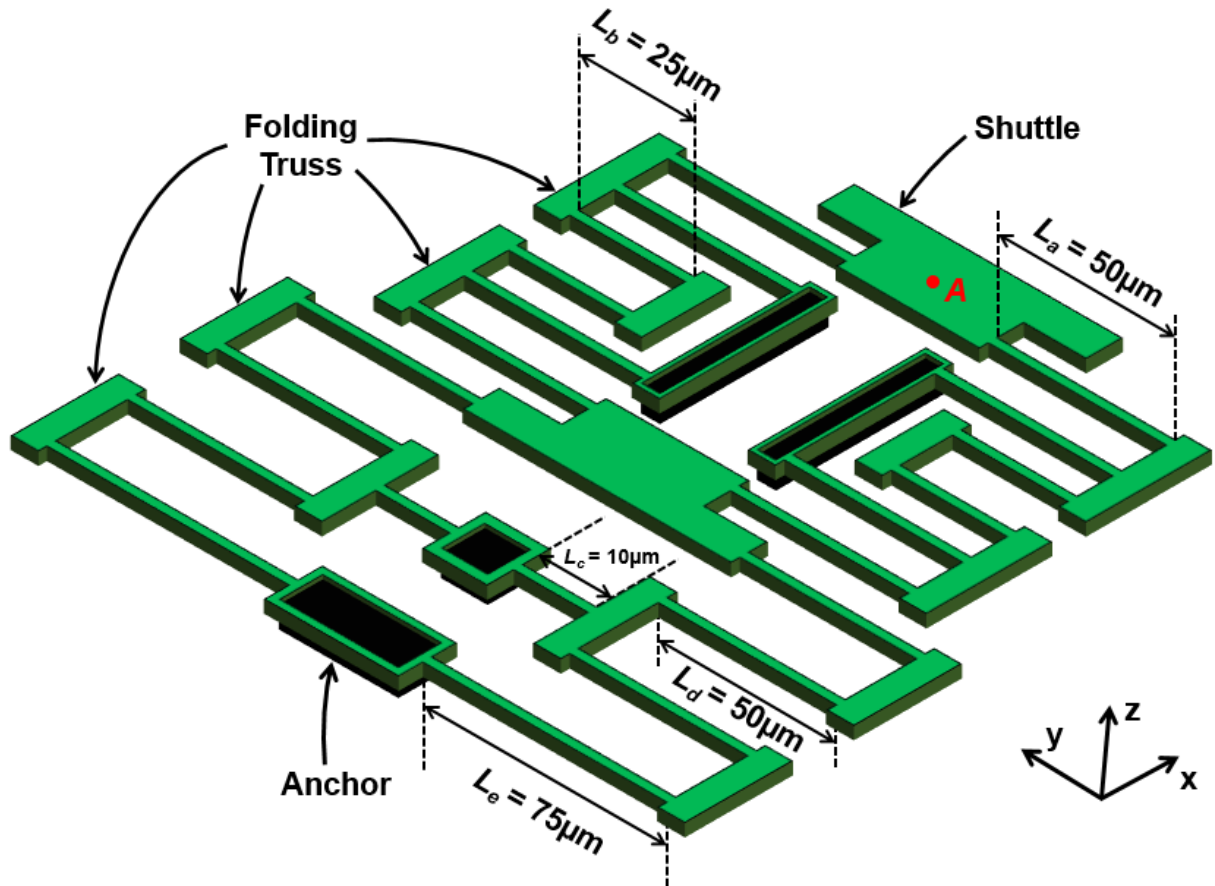

Fig. PS4.3
2. Fig. PS4.3 below presents a micromechanical structure constructed in a $2\mu\text{m}$ -thick structural layer. Here, everything is suspended $2\mu\text{m}$ above the substrate except for the anchoring locations indicated as the darkly shaded regions. Data on the structural material used in this problem is given in Table PS4.1. Assume that all folding trusses and shuttles are rigid in all directions, including the vertical, z direction. Also, assume that all suspension and coupling beam widths are $2\mu\text{m}$.